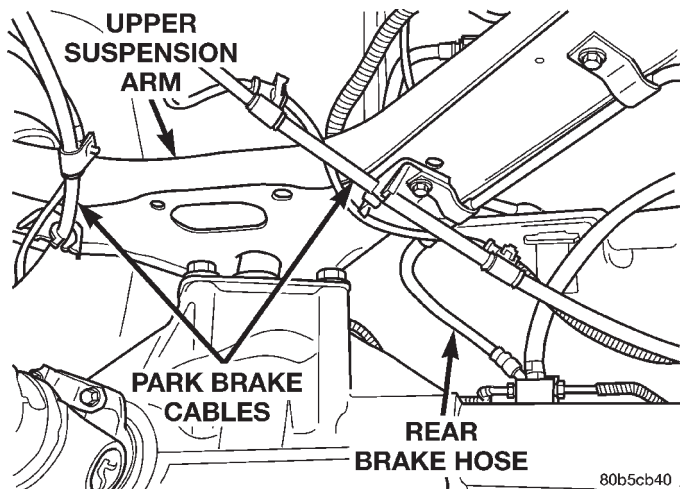

Fig. 7 Park Brake Cables And Brake Hose
- (1) Raise and support the vehicle.
- (2) Support the rear axle with a hydraulic jack.
- (3) Remove the park brake cables and brake hose from the arm (Fig. 7).